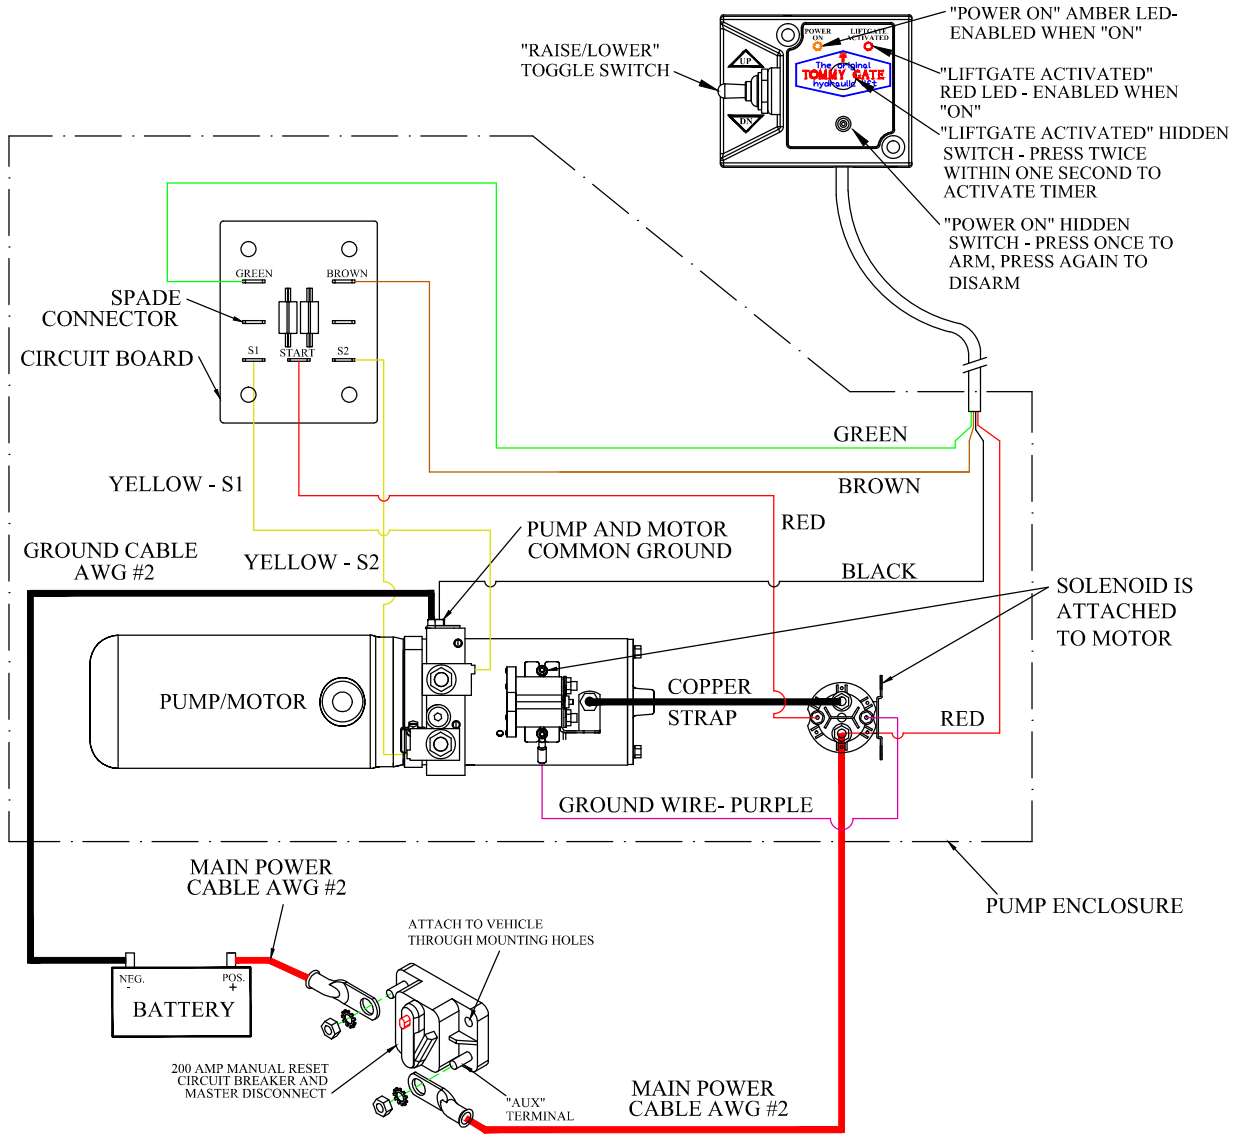

Figure 19: Fixed Control Wiring diagram.
14. **Connect** the circuit breaker and battery as outlined in the Tommy Gate Recommended Electrical Wiring Guidelines and wiring diagram (Figure 19).